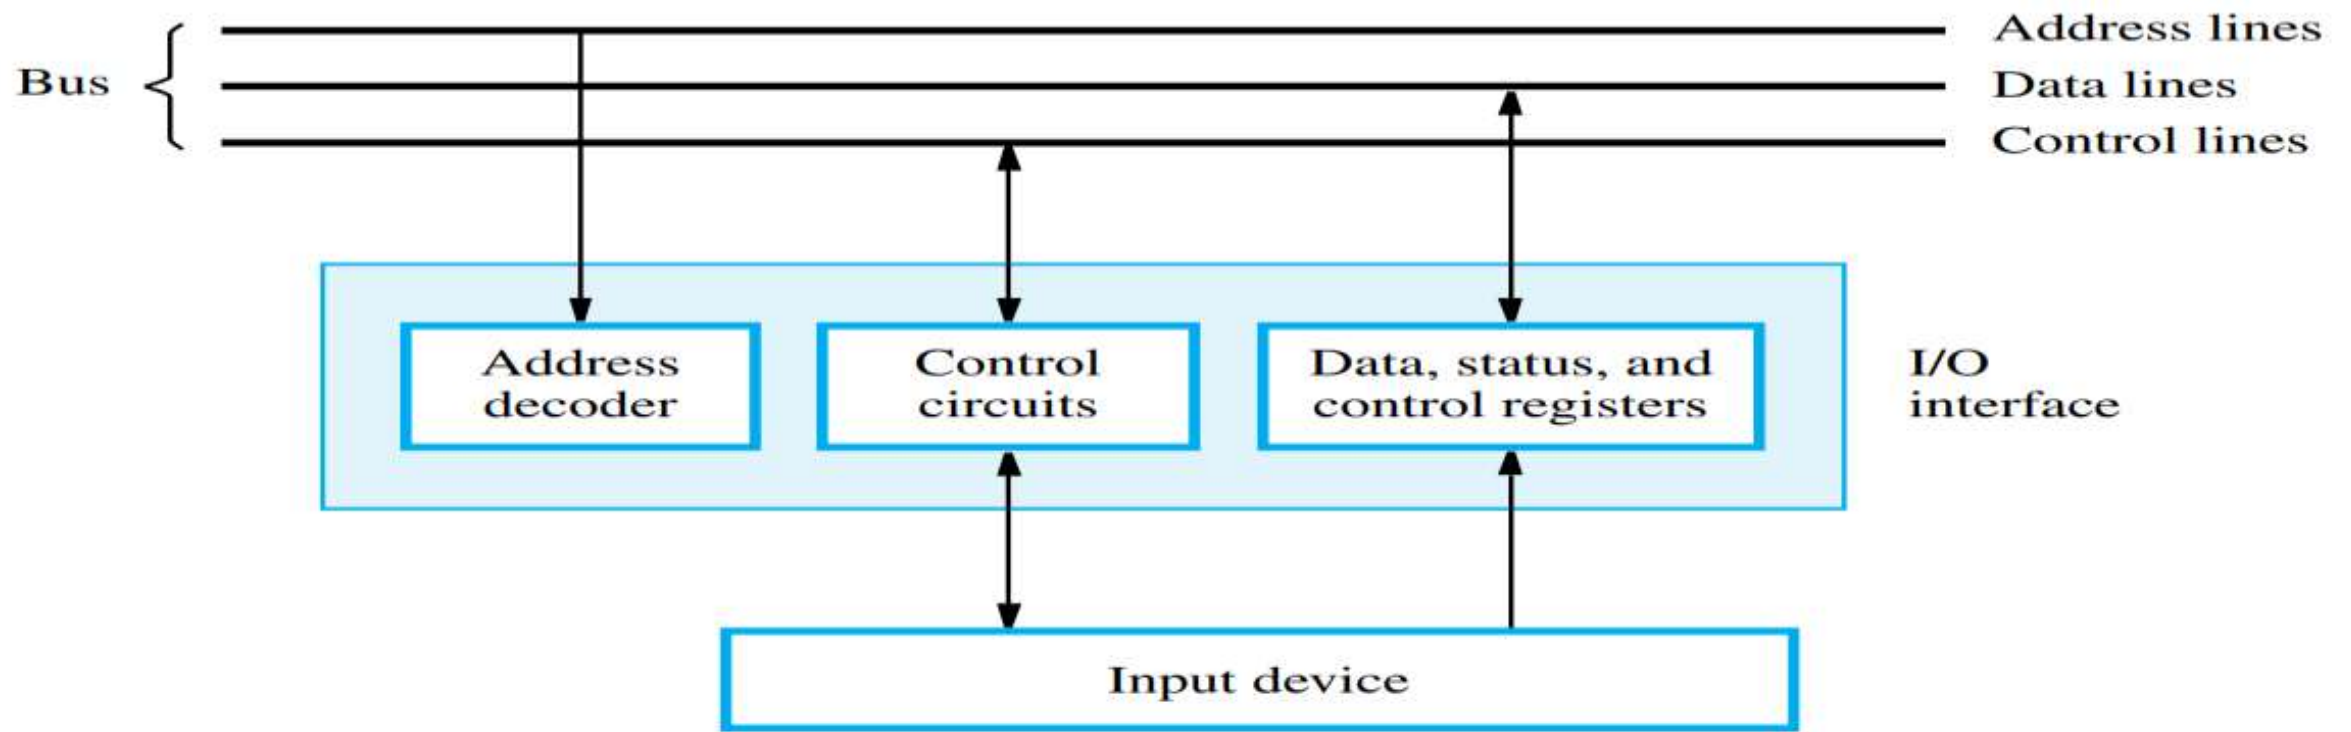

Figure 7.2 I/O interface for an input device.
- Any machine instruction that can access memory can be used to transfer data to or from an I/O device. For example, if the input device in Figure 7.2 is a keyboard and if DATAIN is its data register, the instruction